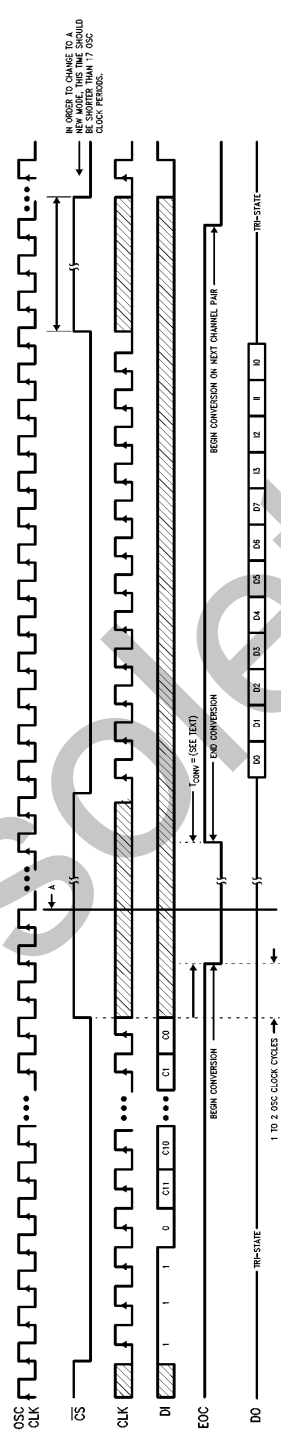

FIGURE 11. Timing Diagram for Auto A/D Conversion ADC0851/ADC0858
The timing diagram for "Auto A/D Conversion" mode is shown in Figure 11. The input word is loaded starting at the first rising edge of the CLK after \overline{CS} goes low. The first four bits configure the device for the "Auto A/D Conversion" mode while the 12-bit channel address assigns the configuration of each channel pair. If \overline{CS} remains low after C0 is loaded then any subsequent input data is ignored. Taking \overline{CS} high after the input word is loaded initiates the start of A/D conversion. A/D conversion starts one to two OSC clock periods after \overline{CS} goes high. The EOC output goes low to signal the start of an A/D conversion. The conversion time may range from 17 μs to 74 μs depending on how
Keeping \overline{CS} low after I0 is transmitted causes the output to be TRI-STATE. Once the output data is transmitted, \overline{CS} may go high to initiate the start of the next A/D conversion. The subsequent A/D conversion starts on the next channel pair that is configured as per the initially loaded input word (Figure 11). Any data on the data input (DI) line is ignored. Note that if the duration for which \overline{CS} is high is less than seventeen OSC clock periods then the conversion process would be interrupted and the device would look for the mode address at the falling edge of \overline{CS} so that a new mode of operation can be configured.